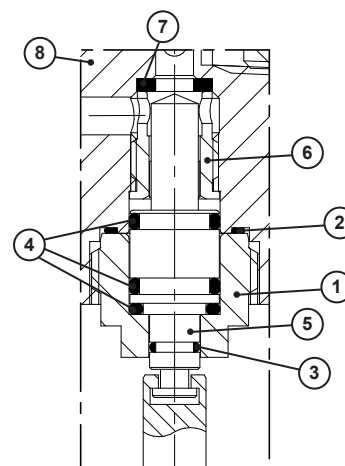

Fig. 17: Detail view of the shutoff valve installation
1. Pull the lever (1) upwards and lock it with a approx. Ø5 mm pin.
2. Place the valve body (4) in front of the lifting rod (6) and fix the protruding tappet to the lifting rod (see Fig. 17 "Detail view of the shutoff valve installation" on page 23).
3. Secure the valve body (4) loosely to the sheet metal frame (2) using the four screws (3) and tighten them crosswise.
4. Remove the locking pin and carefully move the lever (1) into the lower end position.